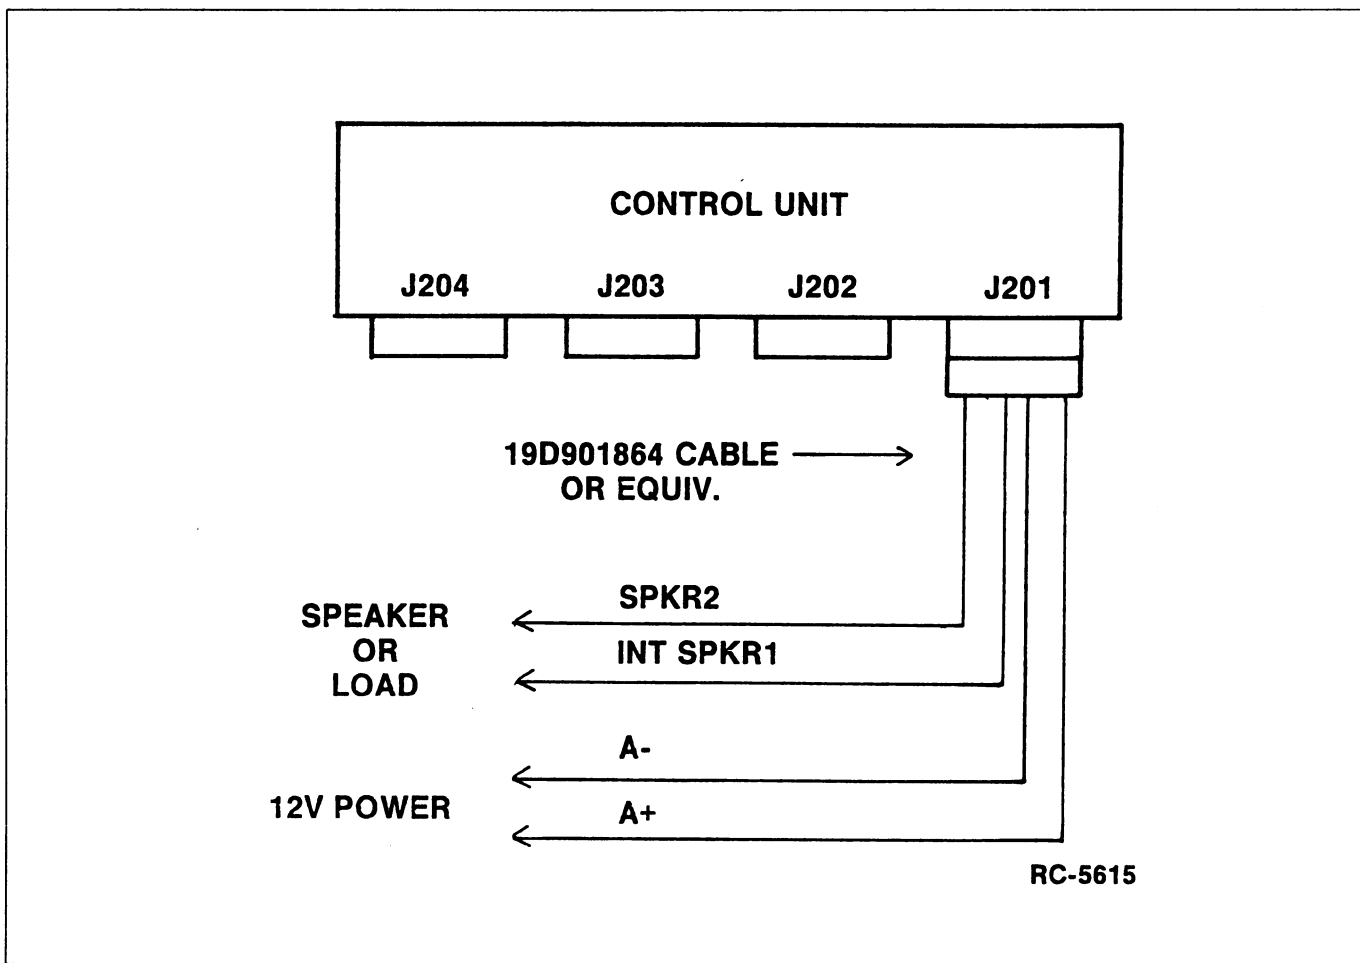

FIGURE 5 - S-550 16^{PLUS} TEST SETUP
1. Connect the Control Unit as shown in Figure 5.